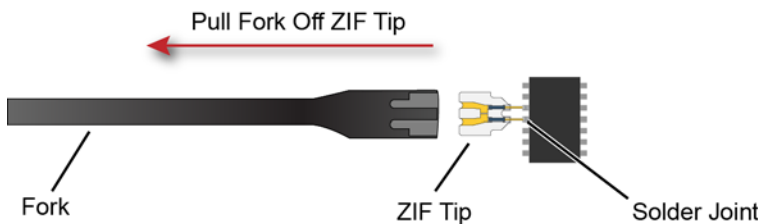

Figure 24 Removing the Handle from the ZIF Tip
- 6 Pull the ZIF handle from the ZIF tip in the direction shown in Figure 24. ZIF tips can be carefully handled with your fingertips and reinserted into a plastic handle if necessary.